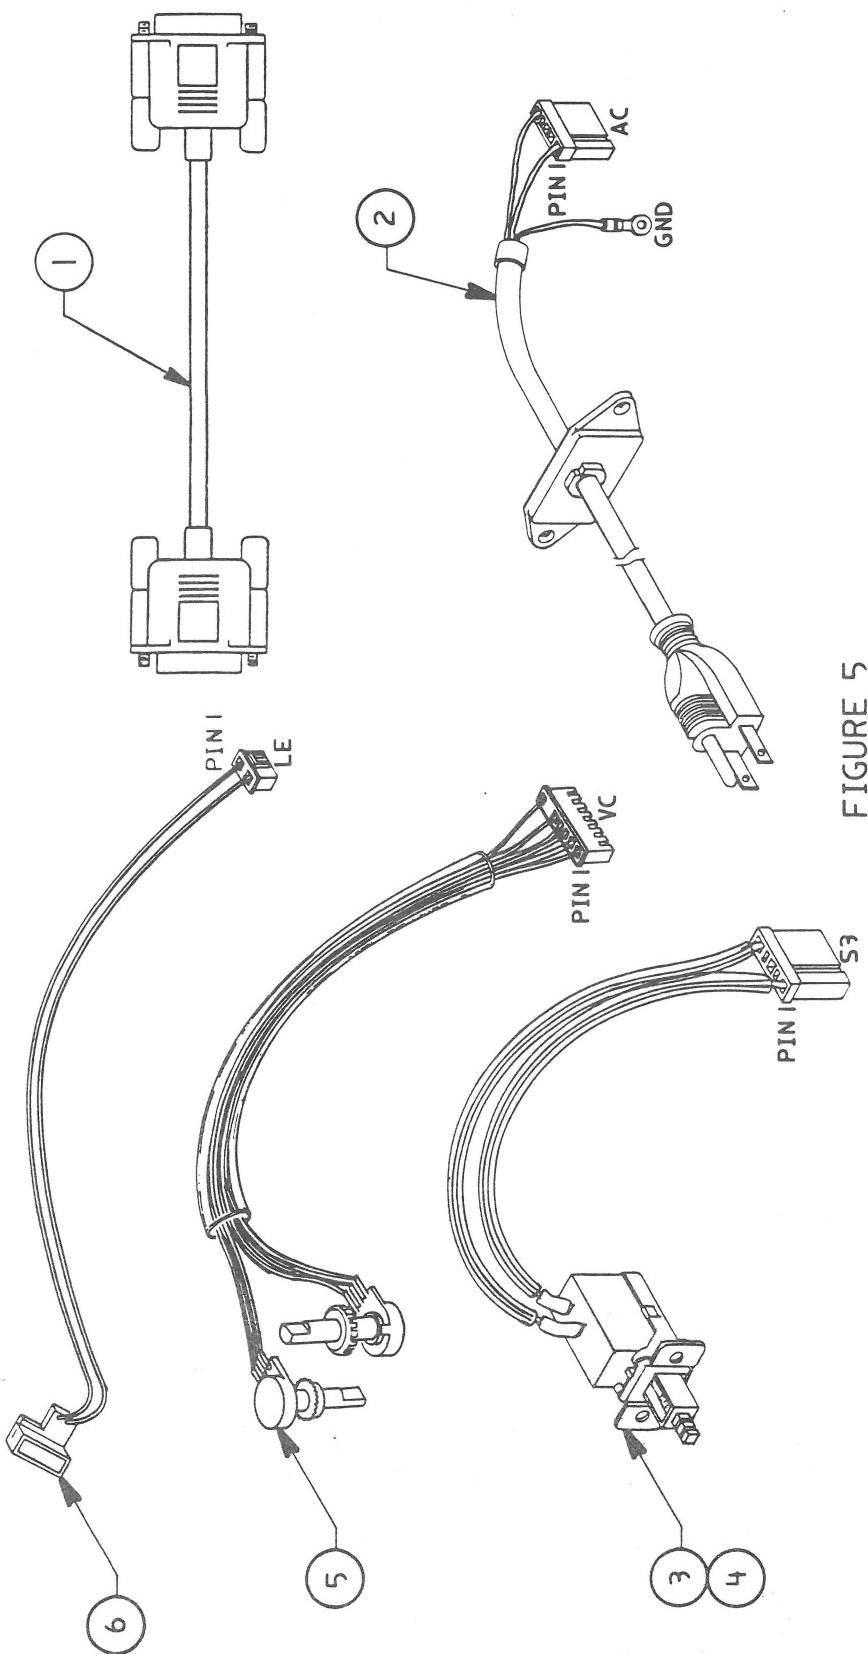

FIGURE 5
- 5.11 Cables and AC Cord (Figure 5)
RGB MONITOR—CABLES AND AC CORD (Figure 5)